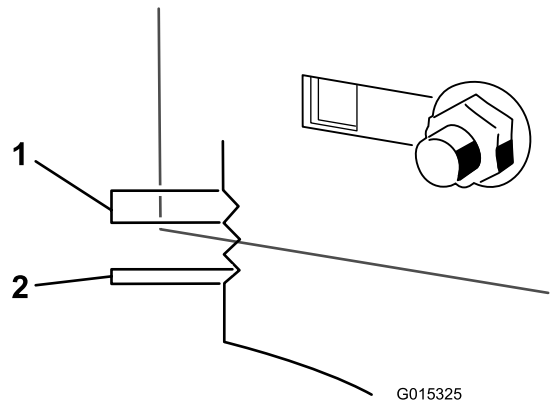

Figure 52
- Use the notches on the welded bracket to measure the amount of adjustment. Each notch surface is equivalent to 0.25 inch, while a single side is 0.125 inch (Figure 52). Adjust the height of the mower deck to the desired height.